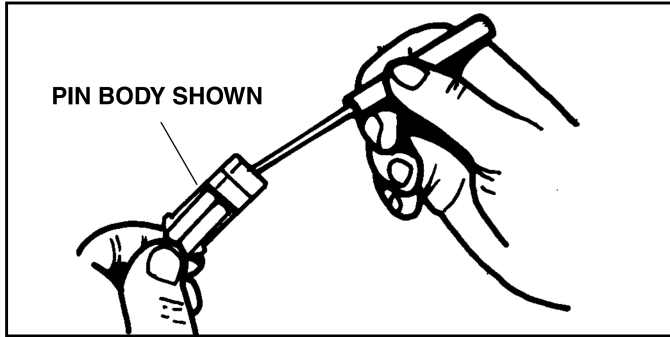

Figure 3-4
4. Locate the terminal lock tang in the connector cavity by looking into the connector from the mating end. Use Terminal Removal Tool (#96102499) to depress the lock tang and gently pull wire to remove wire and terminal from connector body. (See Figure 3-4).